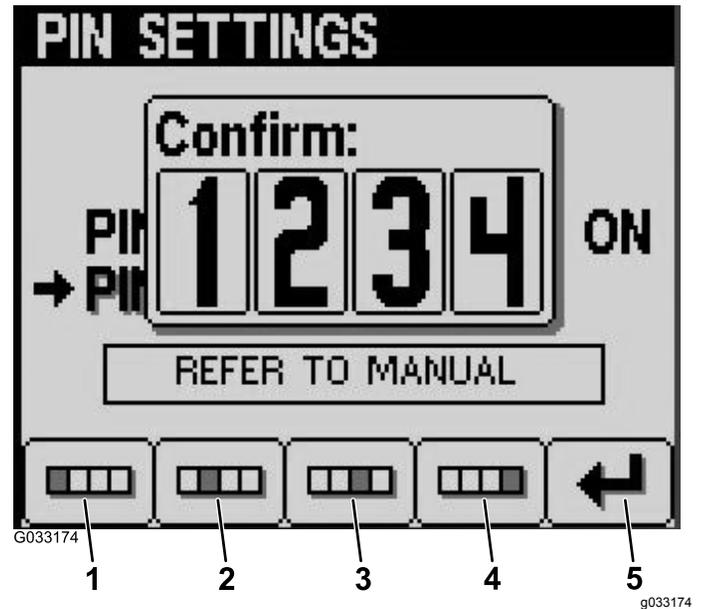

Figure 26
8. Confirm your new PIN using buttons 1 to 4 and press button 5 when you complete the PIN (Figure 26).